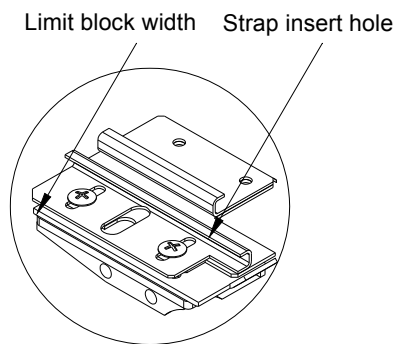
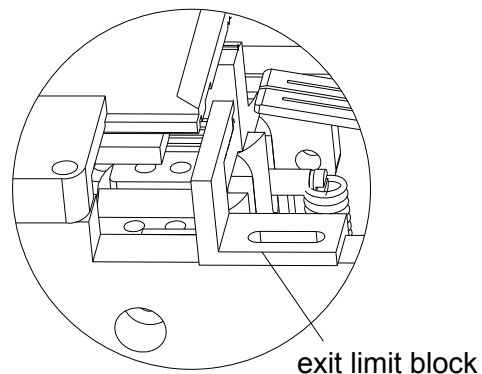

FIG 3-6
FIG 3-7
④ Width adjustment: This machine has a special design, 5mm-15mm. All can be used without changing any parts. If you need to adjust the strap insert hole, the spacing block of outputting straps (refer to FIG 3-6) and the spacing block's width of the outputting bottom plate (refer to FIG 3-7). The machine has been set for 12mm straps as standard at the factory.